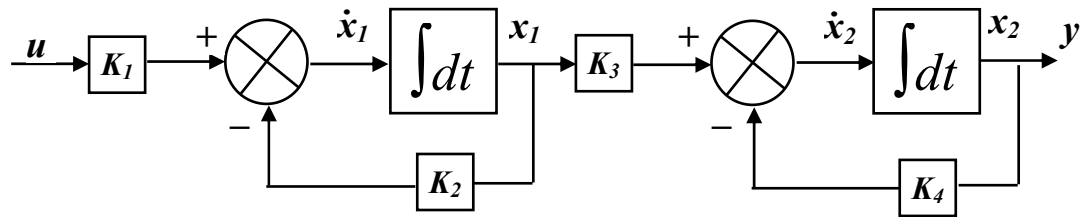

Figure 4.1
4. a. Derive the state variable description of the system shown in Figure 4.1 i.e. obtain a model of the form  $\dot{x} = Ax + Bu$ ,  $y = Cx$  using the definition of the state-variables shown in the figure.